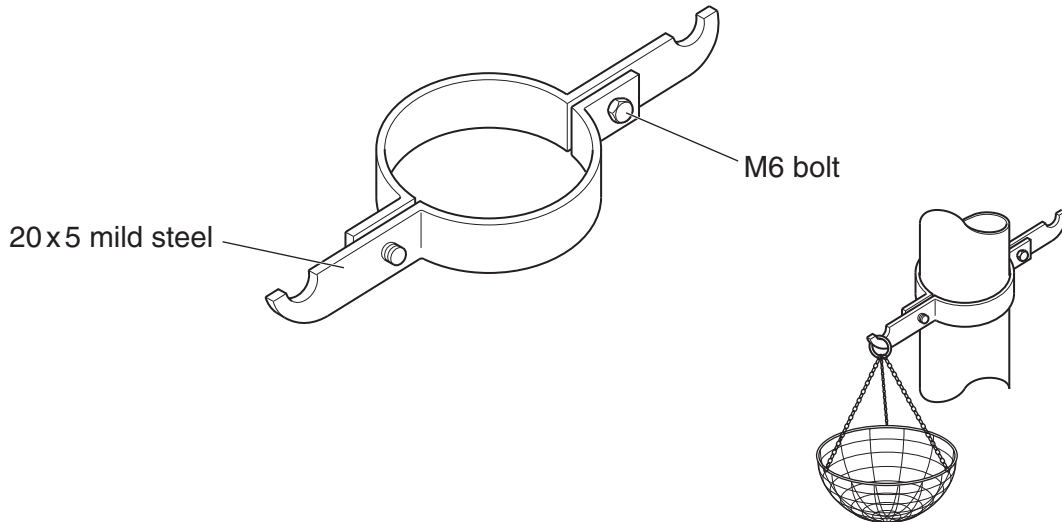

Fig. 4
- 4 Fig. 4 shows a lamppost bracket for hanging baskets. The bracket is made in two parts from 5 mm thick mild steel.
- (a) Give **two** benefits to the environment of using mild steel for the bracket shown in Fig. 4.
(c) Use sketches and notes to design a method of securing the hanging baskets on the bracket shown in Fig. 4.